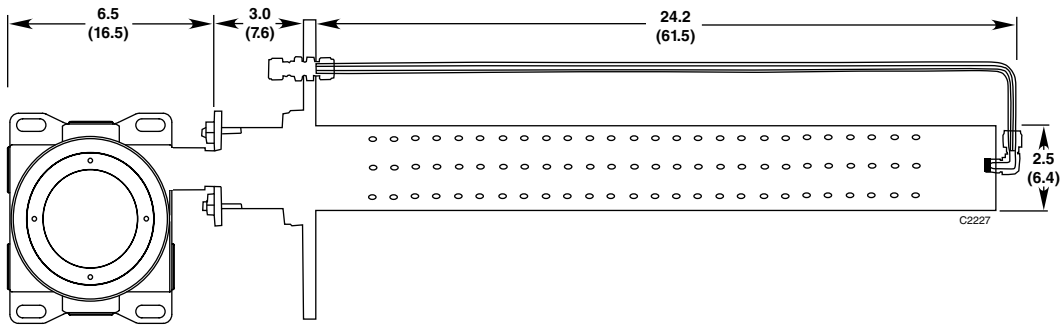
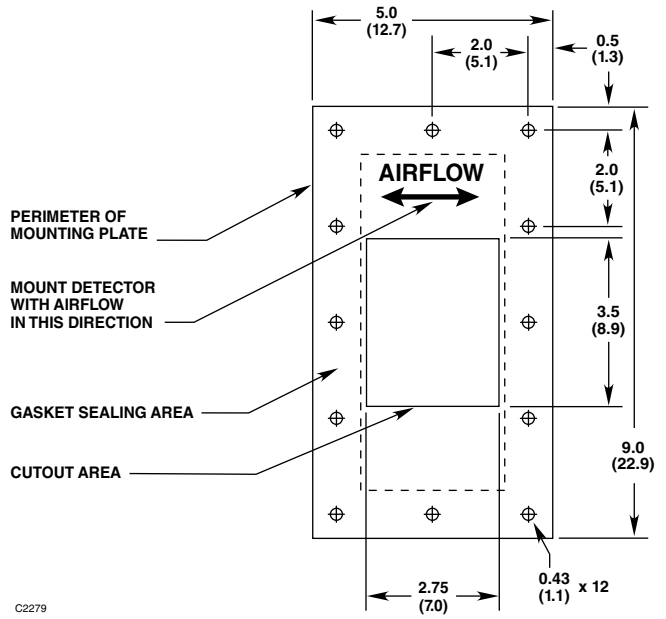

Figure 3—Dimensions of PIRDUCT Detector in Inches (cm)
Figure 5—Dimensions of PIRDUCT Mounting Plate in Inches (CM)
See Figure 3 for dimensions of the PIRDUCT Detector and Figure 4 for dimensions of the Termination Box. See Figure 5 for dimensions of the mounting plate.
- When the proper mounting location has been identified, mark and drill the PIRDUCT assembly mounting holes in the proper pattern. Refer to Figure 5 for the mounting hole pattern dimensions.